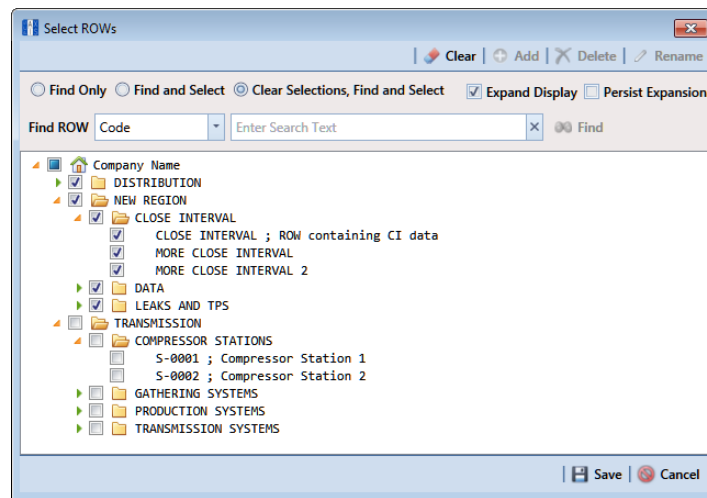

Figure 3-78. Select ROWs
- 1 Click **File > Select ROWs** to open the *Select ROWs* window (Figure 3-78). Select one or more pipeline segments and then click  **Save** to close the window.